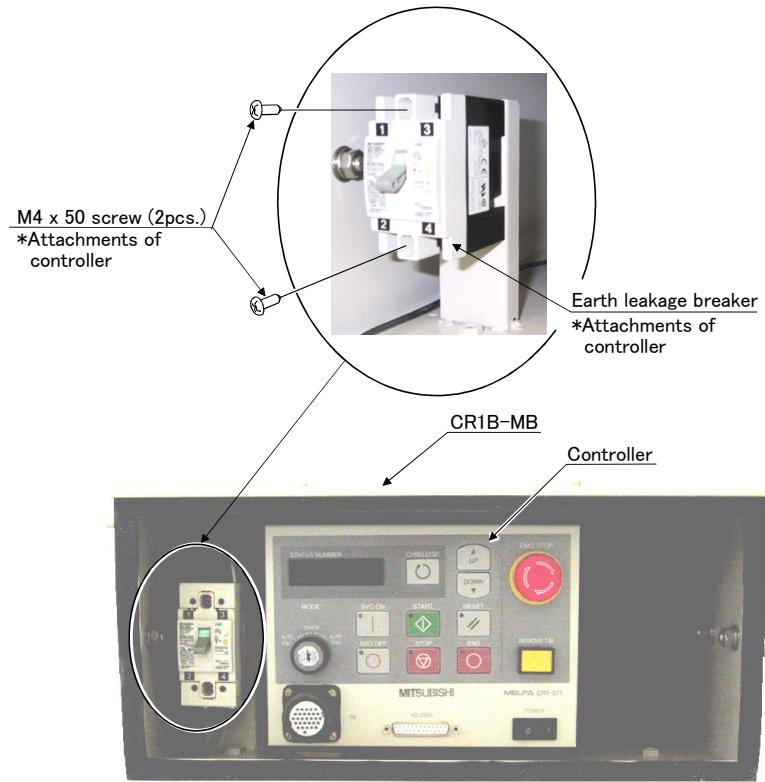

Fig.3-8 : Installation of earth leakage breaker
Fig. 3-8 shows the installation method of earth leakage breaker.
- 1) Install the earth leakage breaker securely with attached installation screw (2-M4x50) as shown in the Fig. 3-8. The upside is ON in the installation direction.
(4) Connecting the power cable, grounding cable, fan power cable